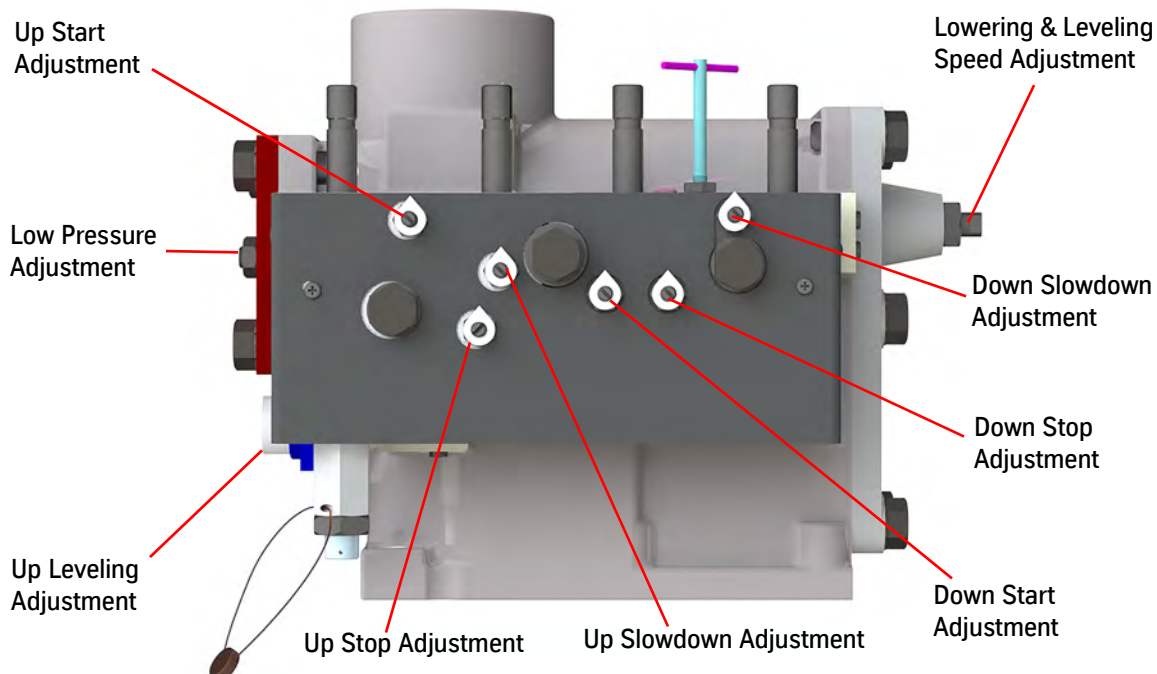

Figure 5 - Valve Adjustments
1. Turn the up slowdown adjustment screw OUT 10 turns to ensure that the car does not initially start up. See Figure 5.